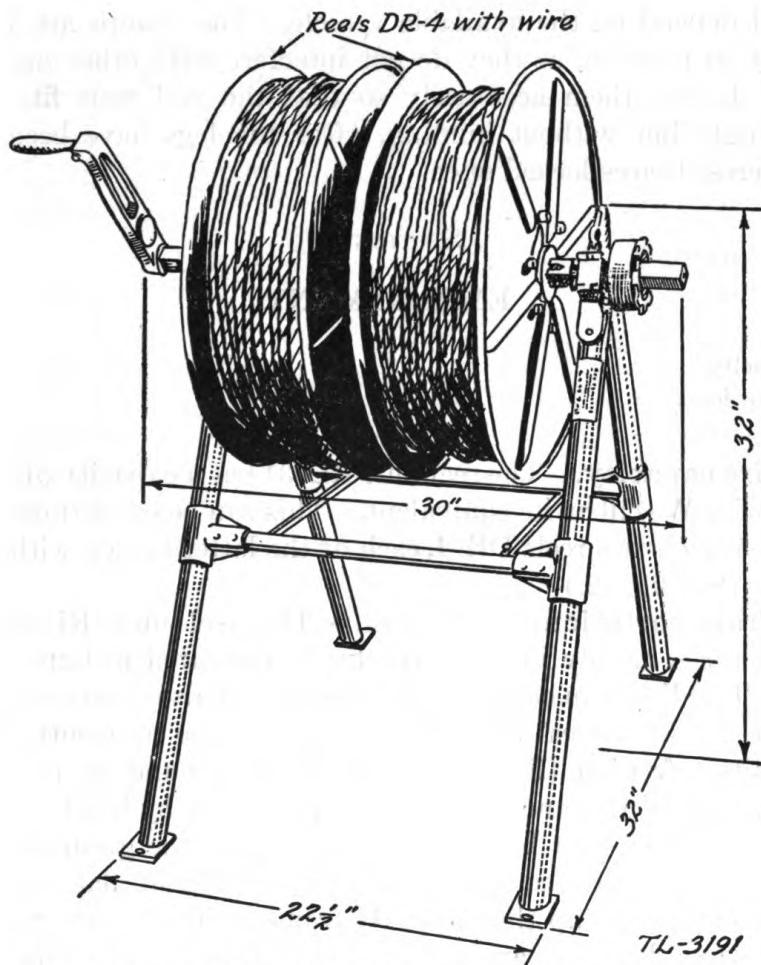

FIGURE 12.—The reel unit RL-31 loaded with two reels DR-4. Important dimensions of the RL-31 are given.
9. Wire capacity.—The reel unit RL-31 has a capacity of one mile of field wire W-110 or its equivalent. This can be carried on a single reel DR-5 or on two reels DR-4, each of the latter loaded with $\frac{1}{2}$ mile of wire. (See fig. 12.)